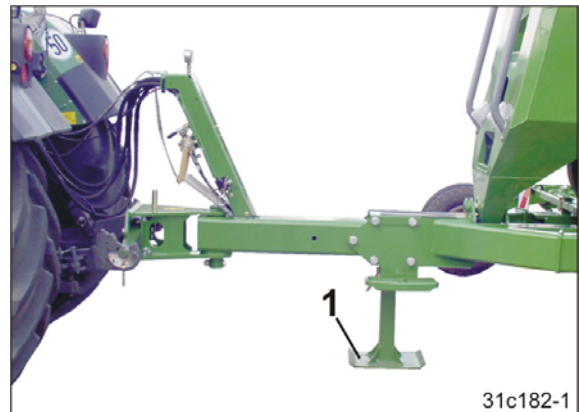

Fig. 156
15. Support the implement on the stand (Fig. 156/1).